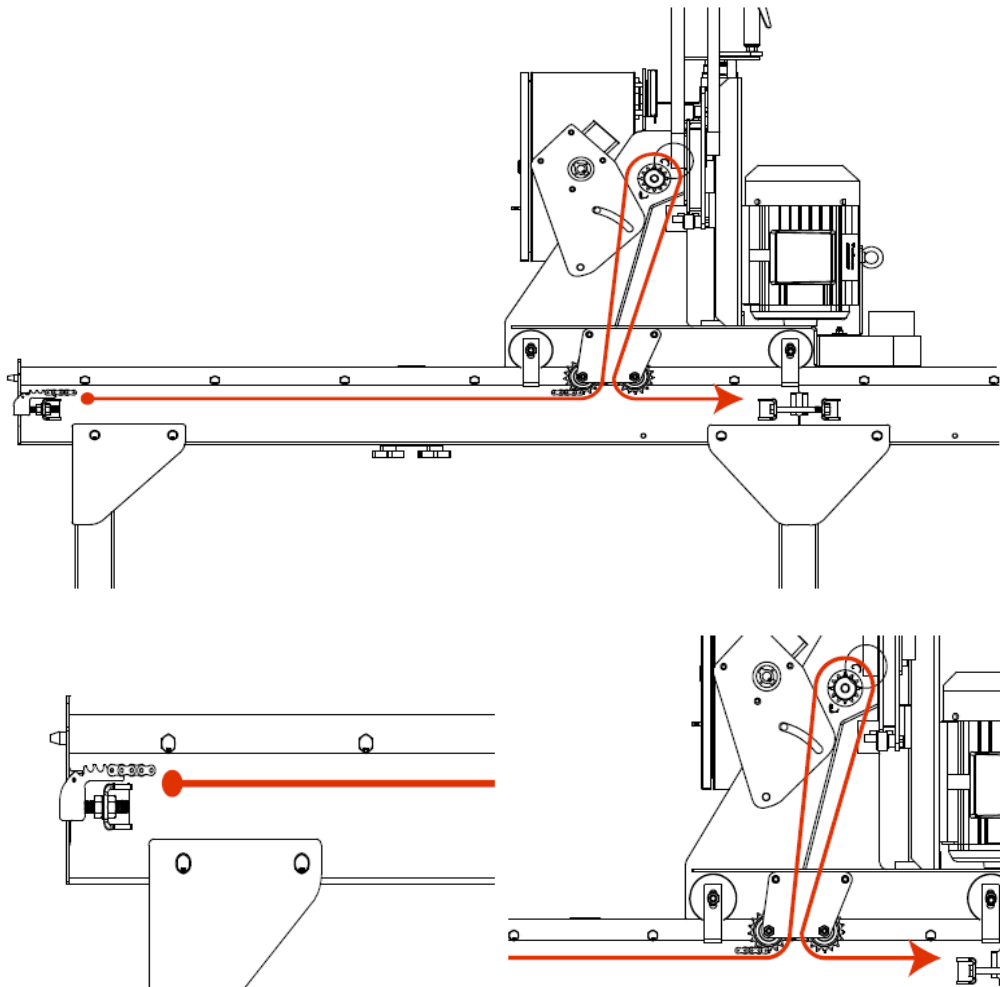

FIG3-10
2. Run the Feed Chain under and around the drive sprockets as shown in Figure 3-10.